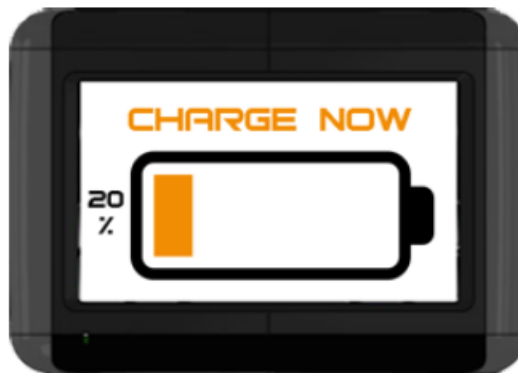

Figure 28: BDI Screen displaying ORANGE and CHARGE NOW.
- b. **ORANGE and CHARGE NOW** (Figure 28): Battery SOC at 11-20%. Connect to a charger as soon as possible.